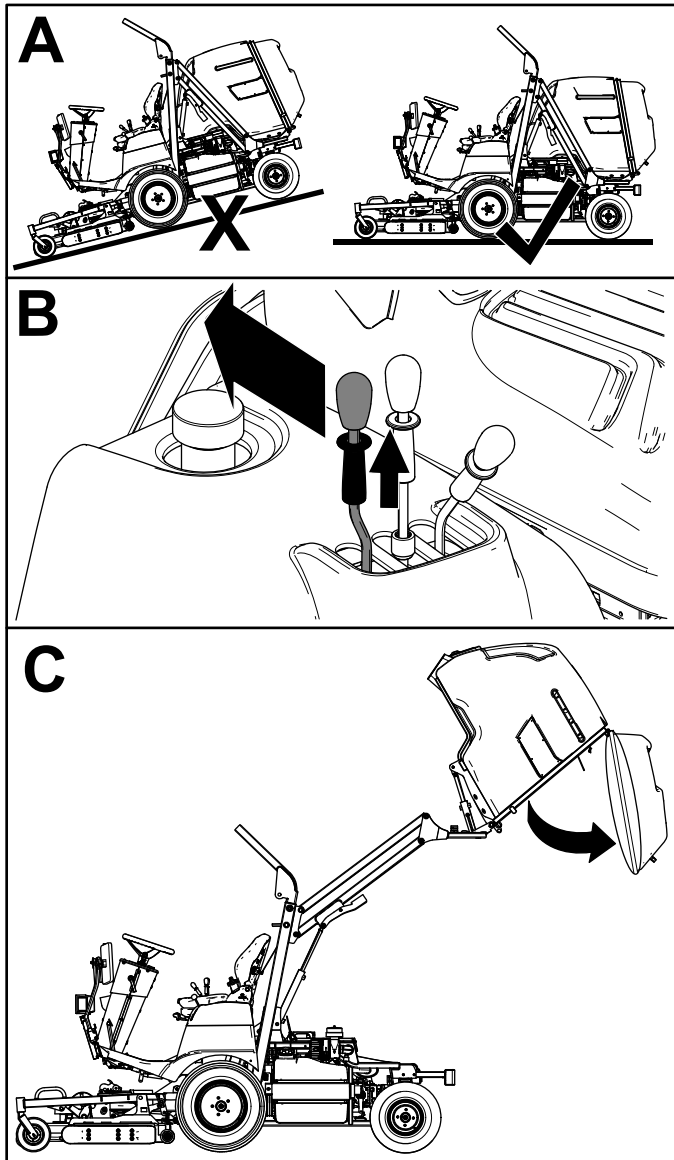

Figure 25
2. Pull the lock collar on the hopper dump lever up and move the lever rearward to dump the clippings from the hopper (Figure 25).